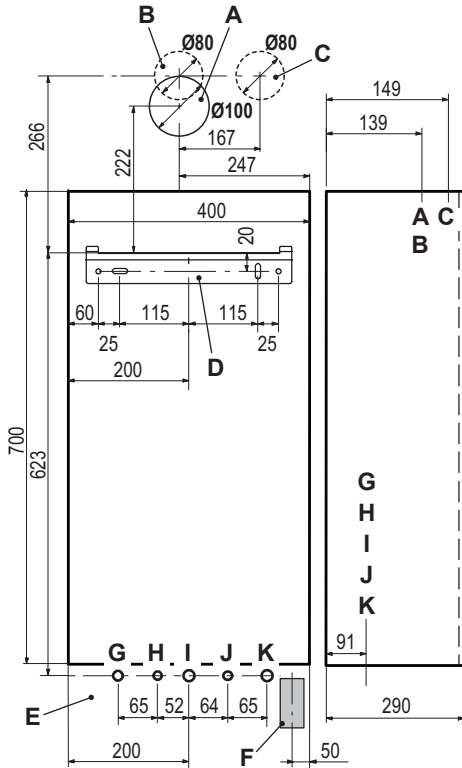

Fig. 6.2
- Fix the water valve "O" ($\frac{1}{2}$ ") to position "J" (Fig. 6.2) using the $\frac{1}{2}$ " gasket.
- Fix the C.H. valves "N" to position "G" and "K" (Fig. 6.2) using the $\frac{3}{4}$ " gaskets.
- Fix the gas cock "P" to position "I" (Fig. 6.2), using the $\frac{3}{4}$ " gasket.
- Fix the \varnothing 15 mm copper pipe "Q" to position "H" (Fig. 6.2) using the $\frac{1}{2}$ " gasket.